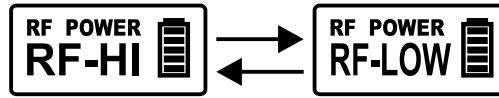

Fig. 22
- (B) RF POWER Setting. Fig. 22: